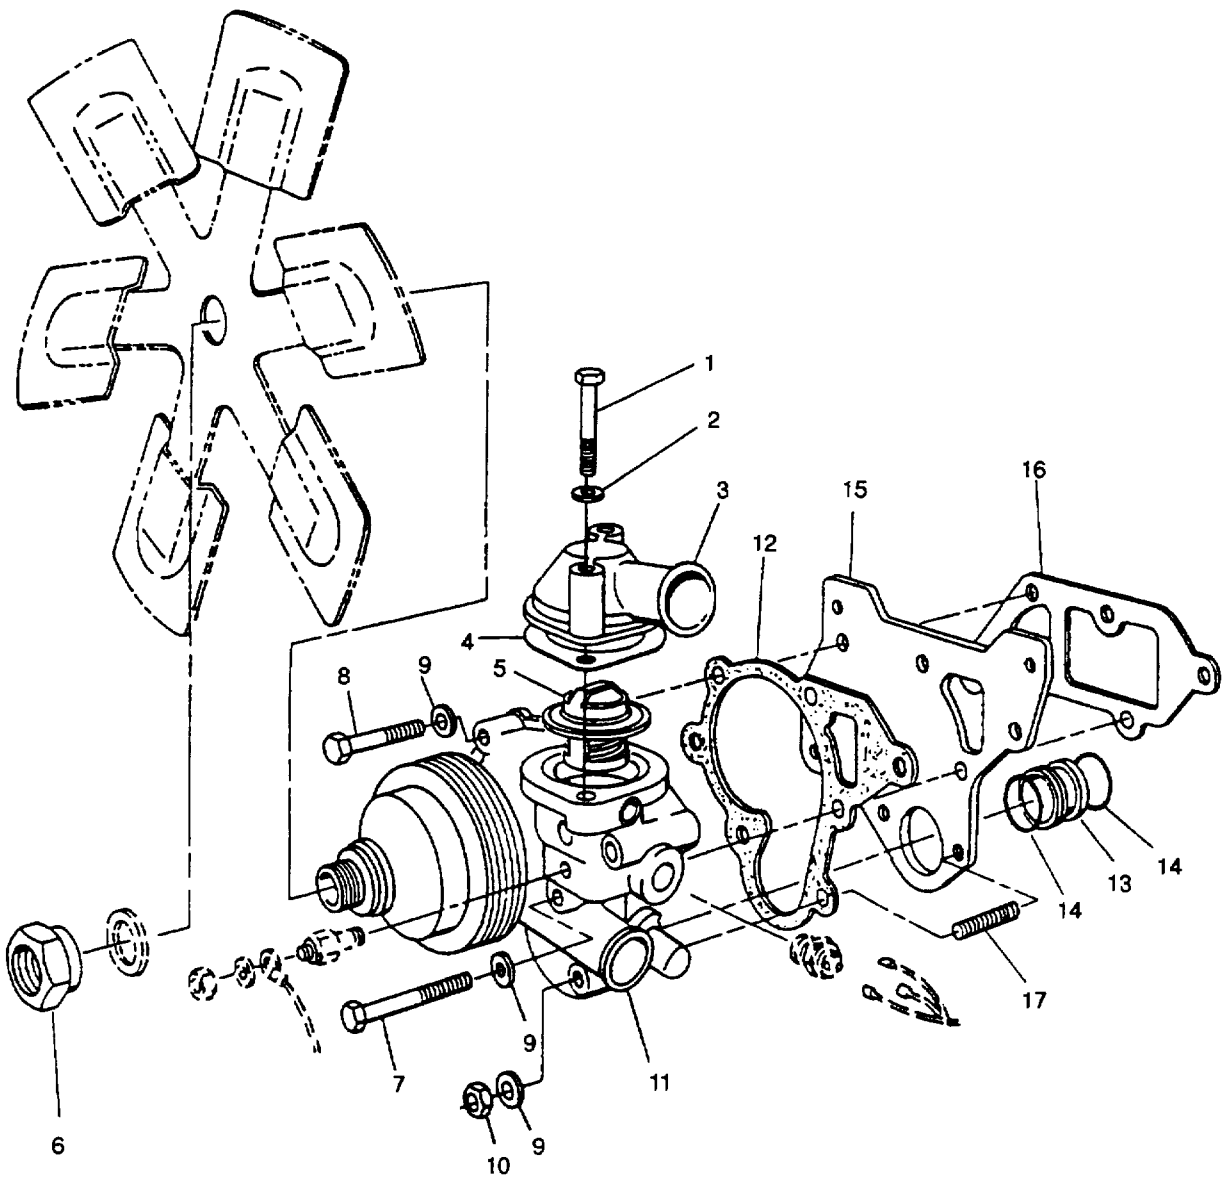

FIGURE 3-4. Cooling System
- c. Loosen hose clamp and disconnect outlet hose from thermostat housing (3, FIGURE 3-4).
- d. Remove two capscrews (1), washers (2), thermostat housing (3), and gasket (4). Discard gasket (4).
- e. Remove thermostat (5) from water pump.
- b. Clean any debris and traces of old gasket from thermostat housing (3, FIGURE 3-4) and water pump (11) mating surfaces. Dry all surfaces.
- c. Install thermostat (5) in water pump.
- d. Install new gasket (4), thermostat housing (3), two washers (2), and capscrews (1).
- e. Connect outlet hose to thermostat housing (3) and secure with hose clamp.
Nut (6, FIGURE 3-4) has left hand threads.
If two water pump studs (17, FIGURE 3-4) have been removed, they must be installed and finger tightened. Do not overtighten as this will cause thread damage preventing a flat sealing surface.